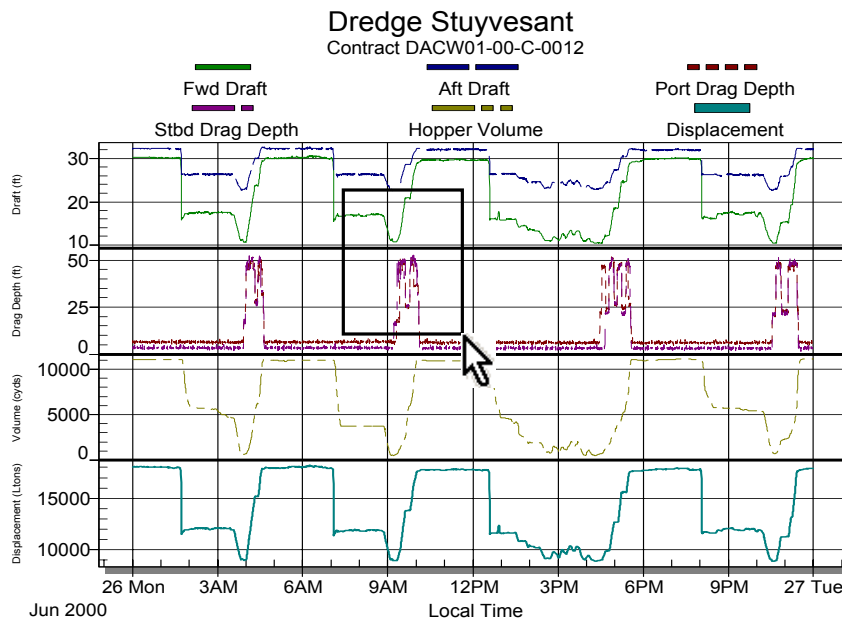
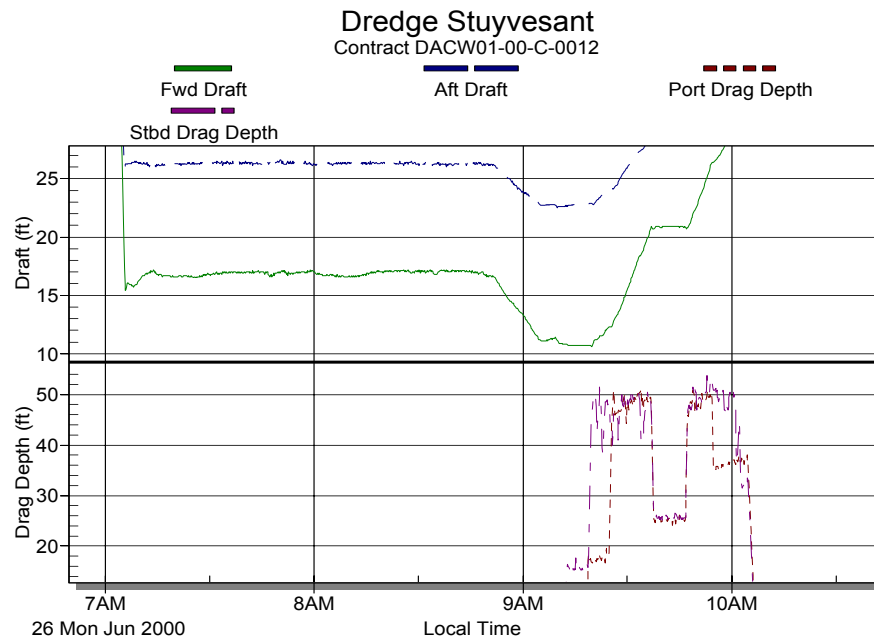

Figure 2.7 Clicking and dragging to select an area to zoom in.
Figure 2.8 Plot after zooming in.
1. Left-click on the mouse and hold while dragging a box around the area you want to zoom in on (See Figure 2.7). The plot should now zoom in on the area as shown in Figure 2.8.